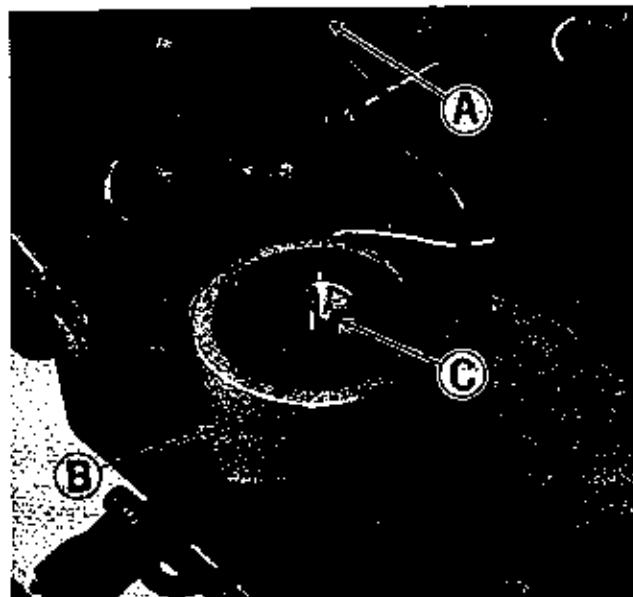

Figure 23. Air cleaner with cover removed on left side of engine.
See figure 23. All grass and chaff should be removed from the engine fins (A); **CAUTION: THE ENGINE FINS ARE VERY HOT AFTER THE ENGINE HAS BEEN OPERATED. DO NOT TOUCH THEM UNTIL THE ENGINE HAS BEEN ALLOWED TO COOL. NEVER SPRAY WATER ON A HOT ENGINE.**
2. See figure 23. Remove the foam precleaner (B) and wash it in liquid detergent and water and squeeze dry.
4. Install the foam precleaner as shown in figure 23.
CLEAN OR REPLACE AIR FILTER ELEMENT: The engine air cleaner is made up of two types of filters. The foam filter (Figure 23, Item B) and a dry filtering element. The foam element should be cleaned and oiled every 25 hours as explained under the Every 25 Hour Maintenance Services. Once a year or every 100 hours, which ever occurs first, the paper element should be removed and cleaned or replaced. Proceed as follows:
2. See figure 23. Remove the foam element (B) and clean and oil it as described in the Every 25 Hour Maintenance Service.
3. Remove wing nut (C) and remove the paper element from the air cleaner.
5. See figure 23. Replace the paper element and wing nut (C) and tighten it securely.
6. Install the foam element (B) over the paper element as shown in figure 23.